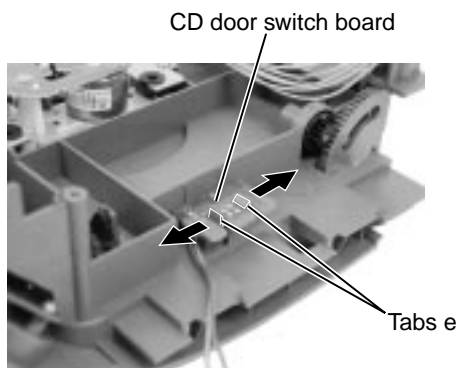

Fig.24
■ Removing the CD door switch board (See Fig.24 and 25)